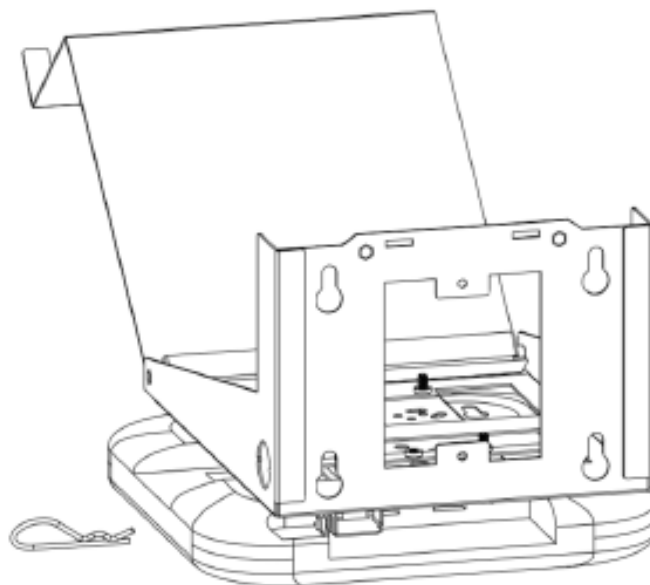

Figure 3
Step 2.1.5 – If a lock is not used, slip the cotter pin provided in place to secure the AP to the Cisco bracket as shown in Figure 3. This will prevent the AP from accidentally being dislodged.